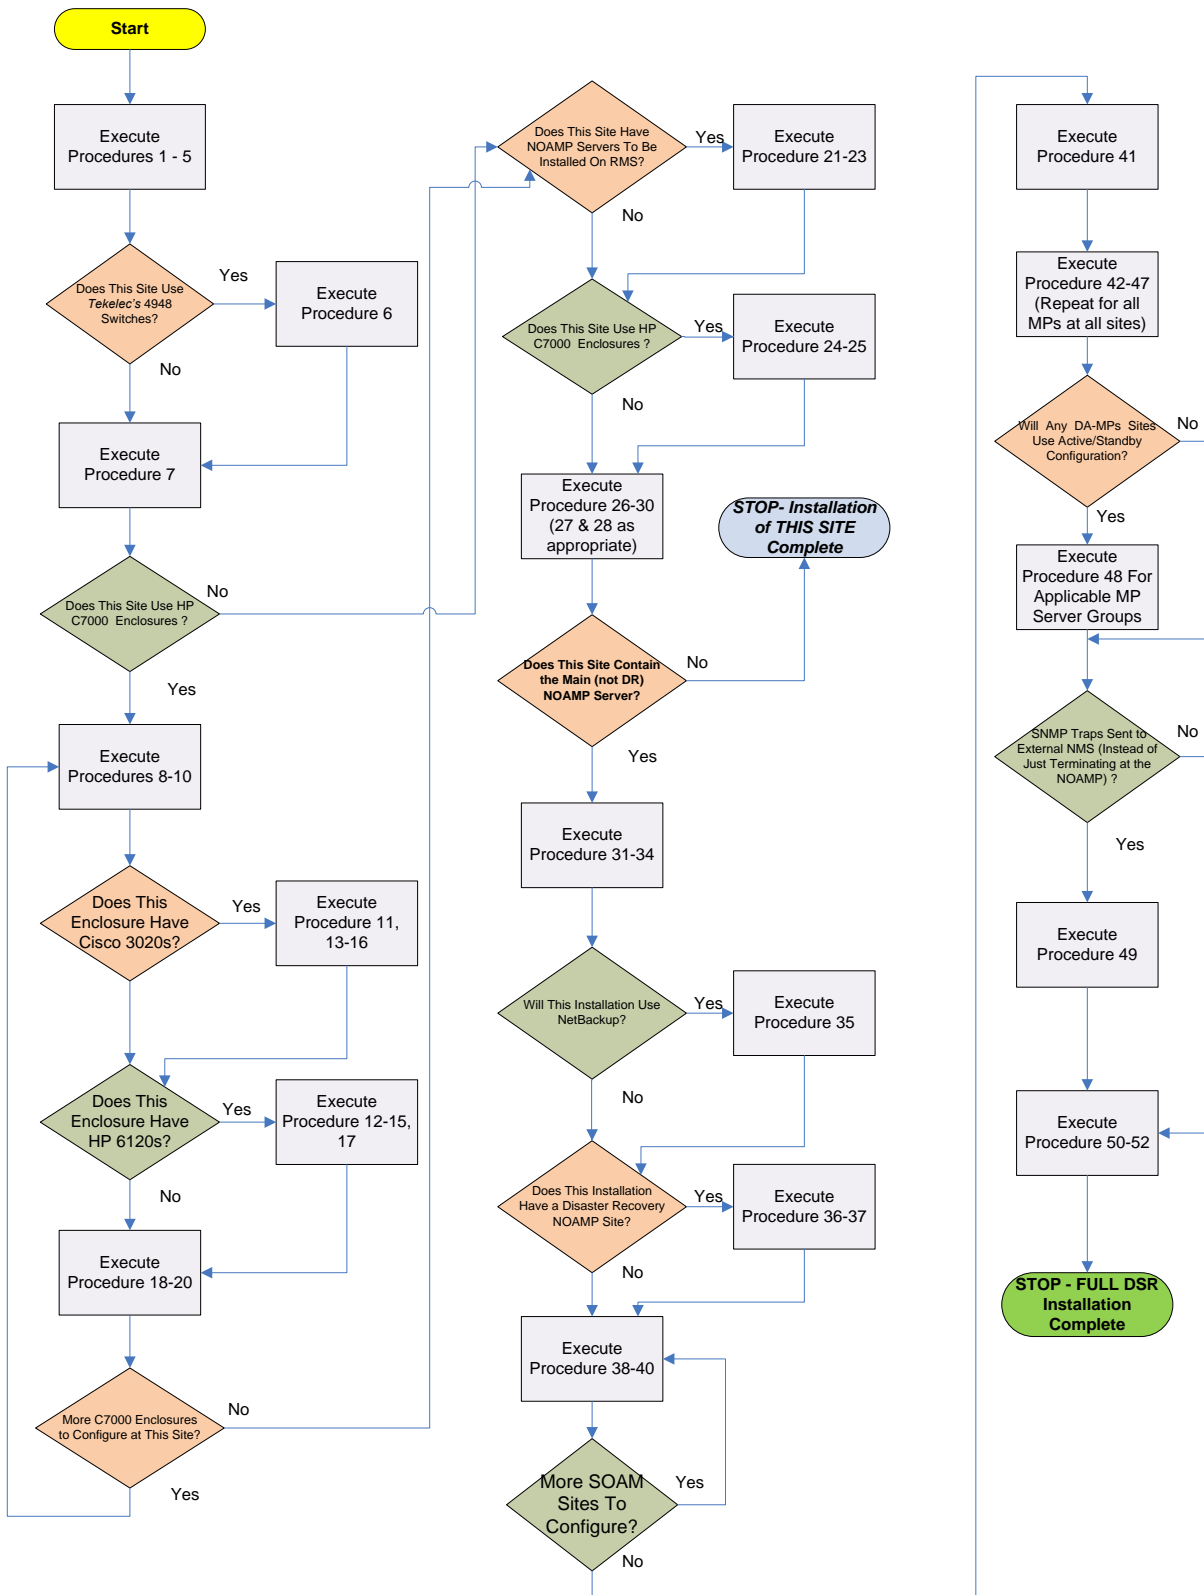

Figure 4: DSR Single Site Installation Procedure Map
3. For each site being configured, the installer will consult Figure 4 to determine the exact procedures that are to be executed for that site.
4. The installer will then install the “main” site that contains the NOAMP -- again, consulting Figure 4 to determine the procedure list. (note: for sites where the NOAMP is co-located with the SOAM and other servers, steps 3 and 4 are combined). During this install, he will “bring up” the other sub-sites that were configured in step 3.
5. Once the NOAMP site has been installed according to Figure 4, full DSR installation is complete.